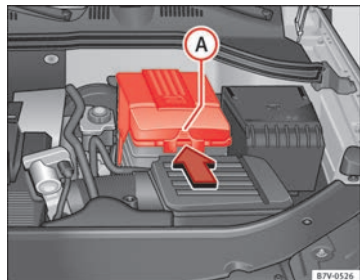

Fig. 176 In the engine compartment: Remove the cover from the vehicle's battery
- *In the case of a cover:* press the tab ⇒ Fig. 176 A in the direction of the arrow and pull the cover upwards.